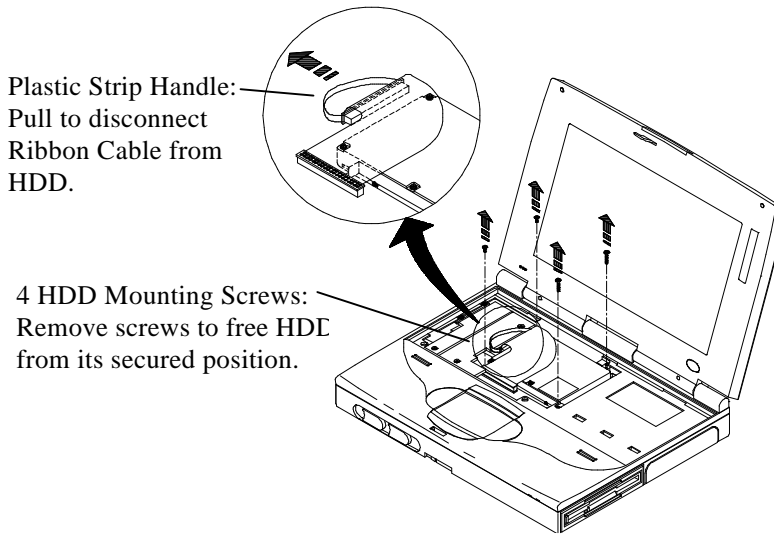

Figure 6-4: Disconnecting the Ribbon Cable from the HDD
5. The HDD is held in place by four screws located at each of the four corners of the HDD. Using the proper Philips screwdriver, remove the screws and place them in an area where they will not get lost. Please refer to **Figure 6-4**.
7. Notice that the ribbon cable is equipped with a handle made from a plastic strip. Carefully pull on this handle to disconnect the ribbon cable from the HDD and remove the HDD. Please refer to **Figure 6-4**.